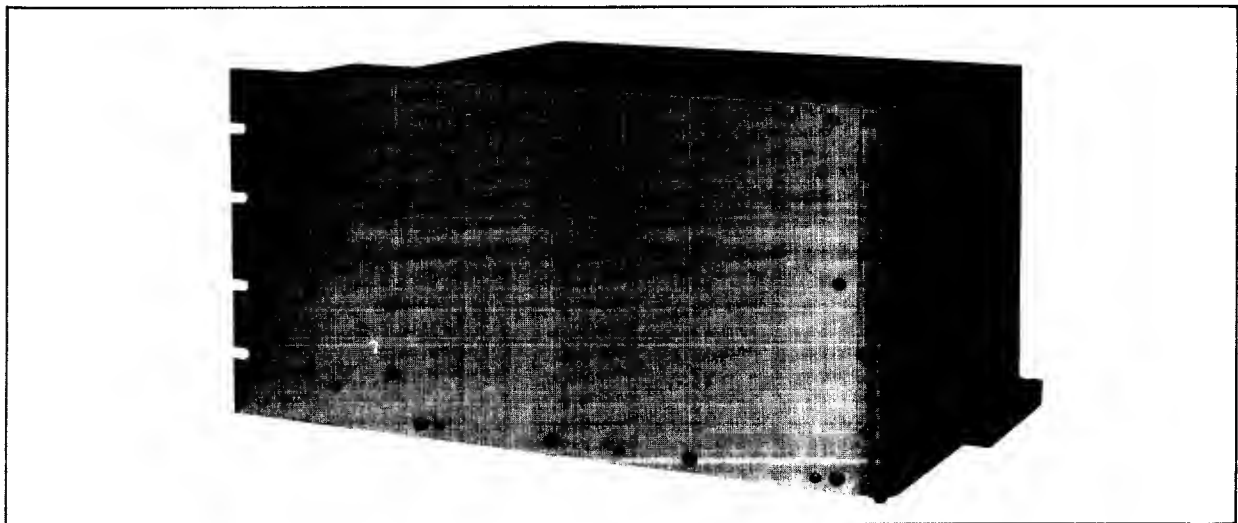

Figure 4-3. HP 30310A Power Supply
4. Open the rear door of equipment bay number 1, remove the screw(s) at the left edge of the HP 30310A Power Supply (figure 4-3) and swing that Power Supply out of the bay.